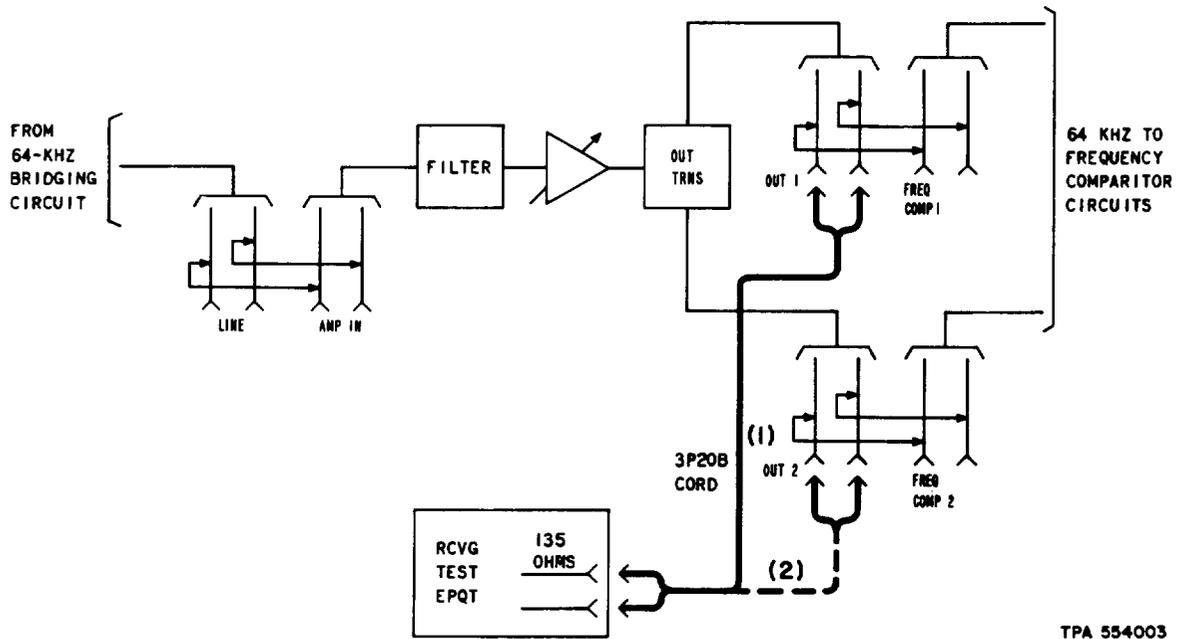

Fig. 3—64-kHz Synchronizing Frequency Amplifier—Measurement of Output Power
2	Connect the RTE to the OUT 1 jack of the synchronizing amplifier [patch (1), Fig. 3].
5	Remove patch (1), Fig. 3.
6	Connect the RTE to the OUT 2 jack [patch (2), Fig. 3].